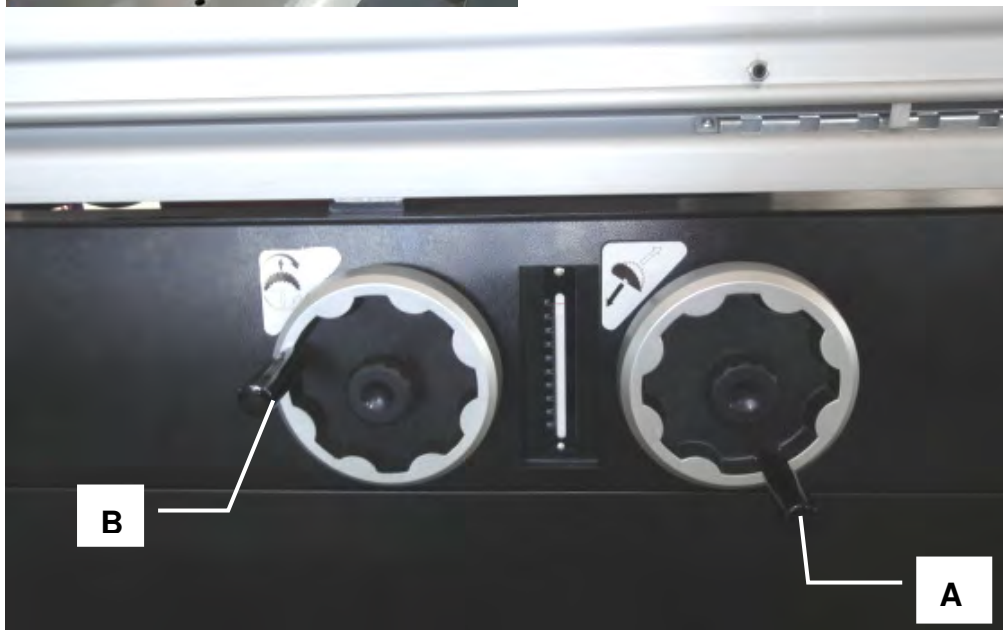

Figure 4-1.1
1. Turn hand wheel **B** (Fig. 4-1.1) counter clockwise: the saw blade rises.
1. Turn hand wheel **A**(Fig. 4-1.1) to tilt the saw blade up to the demanded degree based on scale